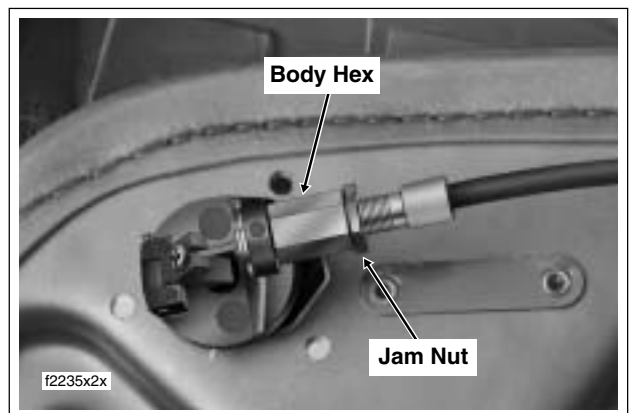

Figure 2-138. Cable Adjustment
Verify that ball end on opposite side of cable is installed in pivot of button assembly. See Figure 2-138.
3. Back jam nut away from body hex. See Figure 2-138.